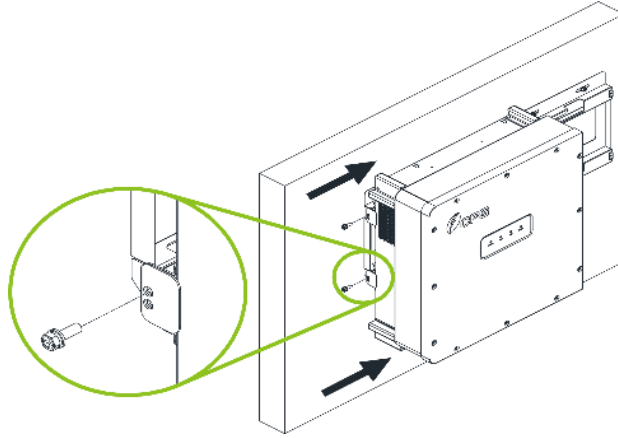

Figure 3-13 Main Enclosure Position
- c. After hanging, push the enclosure to the right into its final position (Figure 3-13) and secure with an M6x18 combination screw torqued to 53 in-lbs (6 N·m).